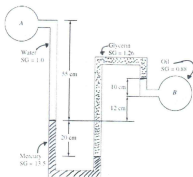

Fig.1
- c) The pressure difference between an oil pipe and water pipe is measured by a double-fluid manometer, as shown in Fig.1. For the given fluid heights and specific gravities, calculate the pressure difference  $\Delta P = P_B - P_A$ . (5 marks)